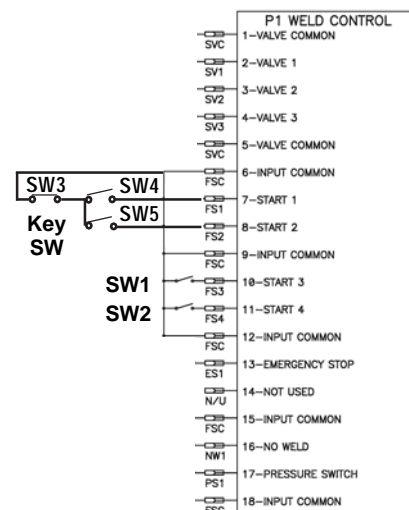

Figure 9-33.
2. Connect the initiation switches SW1 and SW2 to P1 connector as shown in Figure 9-33.